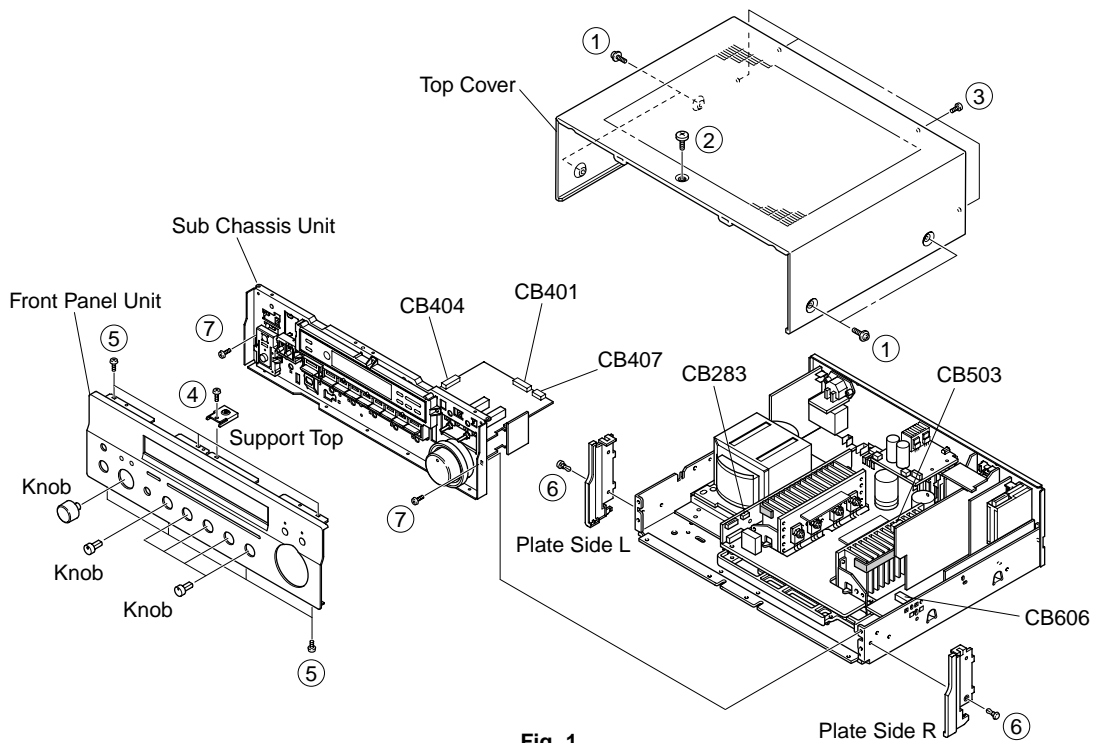

Fig. 1
- 21 OPERATION (1) P.C.B.
- 22 OPERATION (8) P.C.B.
- 23 OPERATION (9) P.C.B.
- 24 OPERATION (5) P.C.B.
- 25 OPERATION (11) P.C.B.
- 26 OPERATION (4) P.C.B.
- Remove 4 screws (①), 1 screw (②) and 4 screws (③). (Fig. 1)
- Slide the Top Cover rearward to remove it. (Fig. 1)
- Remove 1 screw (④) and then remove the Support Top. (Fig. 1)
- Remove 7 screws (⑤) and then remove the Front Panel Unit. (Fig. 1)
- Remove 2 push rivets (⑥) and then remove the Plate Side L/R. (Fig. 1)
- Remove 2 screws (⑦) and then slide the Sub Chassis Unit forward. (Fig. 1)
- Remove connectors CB283, CB401, CB404, CB407, CB503 and CB606 and then remove the Sub Chassis Unit. (Fig. 1)